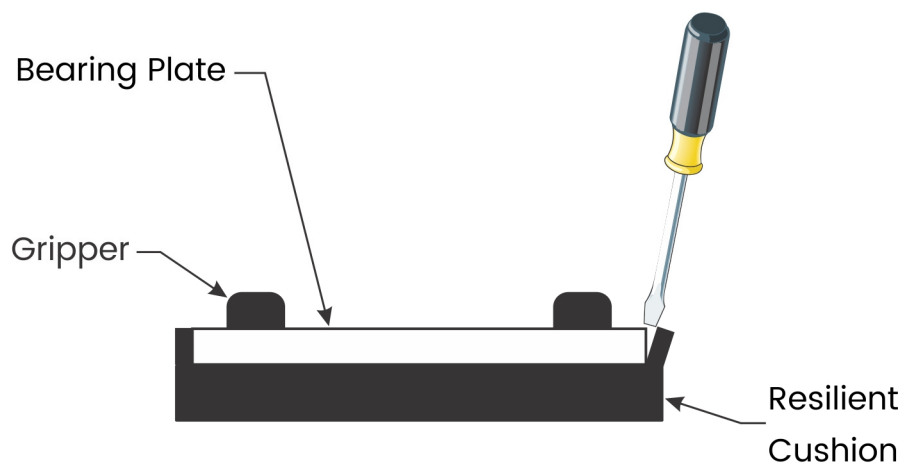

Figure 3
9. Once the Resilient Cushion and the Bearing Plate have been separated from the Housing, remove the Bearing Plate from the Resilient Cushion. This is easily done inserting a flathead screwdriver between the Resilient Cushion and the Bearing Plate and prying the two pieces apart as shown in Figure 3.